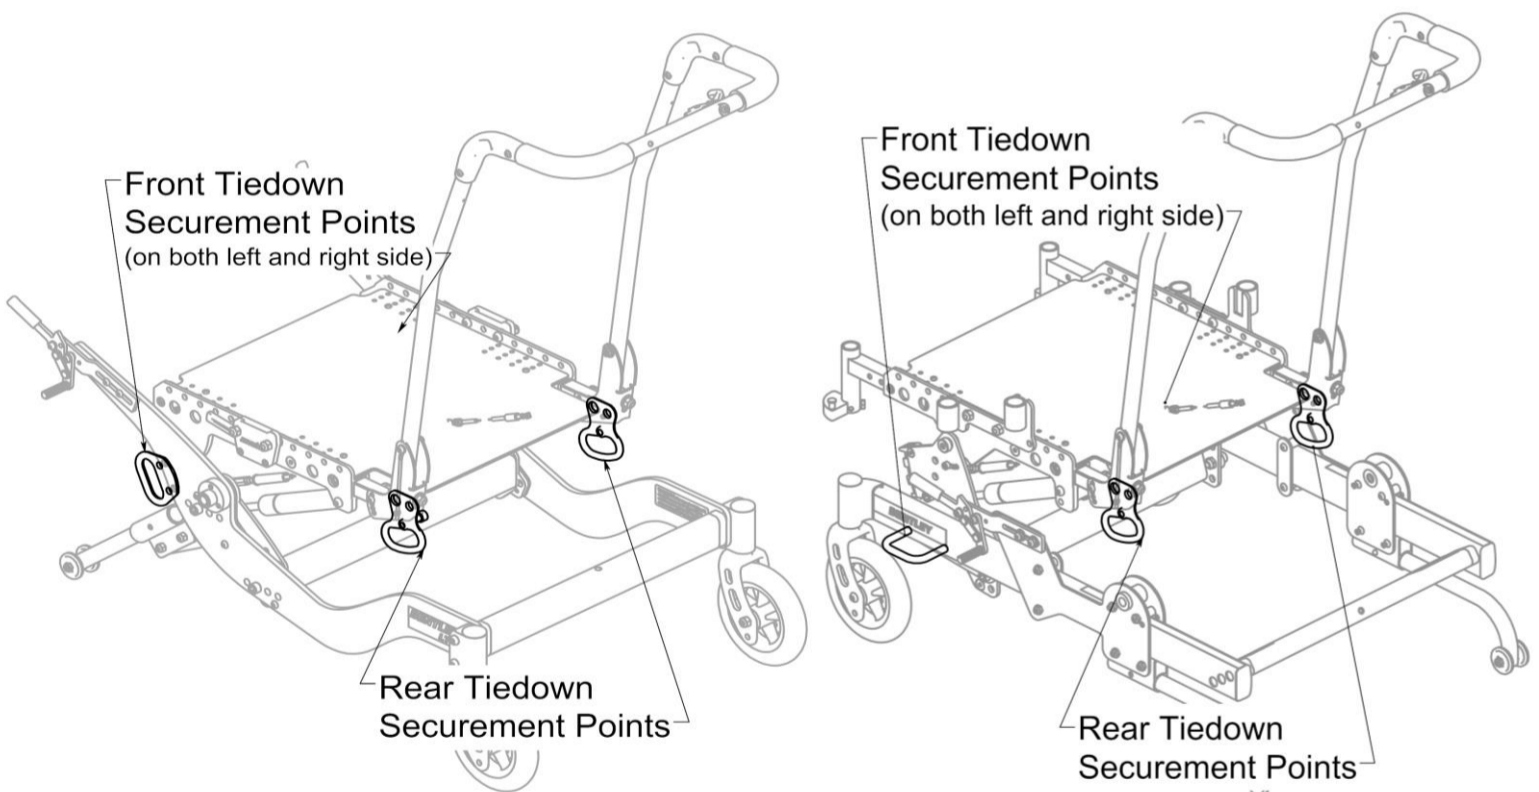

Figure 16.52: Bentley LT-R and Bentley LT/Stellar GLT Transit Tiedown 4-point Securement Location
4. The Bentley Transit Tiedown System is designed for a four-point (two front, two rear) strap-type tiedown system (Figure 16.52). Attach the WTORS in accordance with the manufacturer's instructions and RESNA WC-4:2012, Section 18 or ISO 10542-1:2012- Part 1.